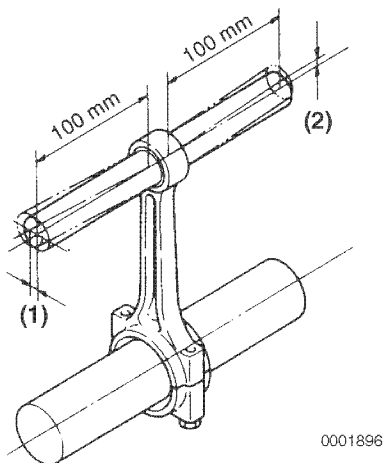
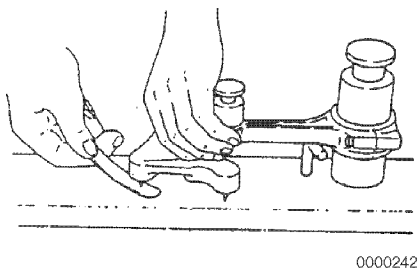

Figure 6-70
Figure 6-71
2. Measure the connecting rod twist (**Figure 6-70, (1)**) and bend (**Figure 6-70, (2)**) using a connecting rod alignment tool (**Figure 6-71**). Record the measurements. See *Connecting Rod* on page 6-12 for specifications.